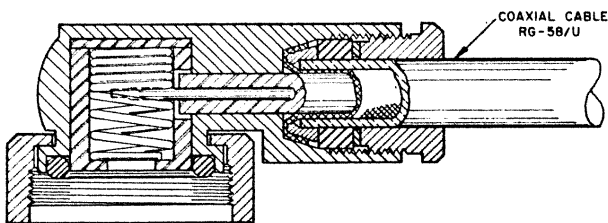
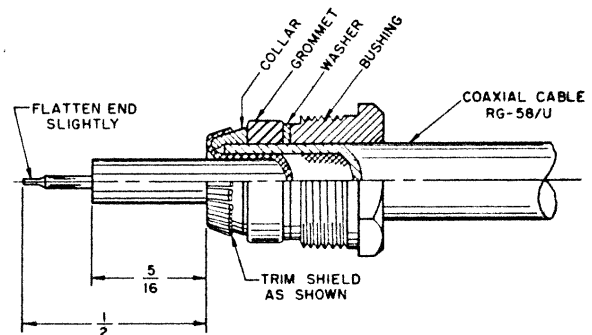

Fig. 5 Connector, Plug
Fig. 6 Cable Service for Connector, Plug
Fig. 5 shows construction of the dc plug in section, and Fig. 6 shows the proper service of the RG-58/U with the fittings on it for use with these plugs. To remove cable from the plug unscrew the hex flanged bushing from the body shank and pull cable out. The chisel point of the center conductor of the cable makes tight contact between the turns of coil spring when assembled.
- (1) Slip the bushing washer, and grommet over end of cable.
- (2) Remove outer insulation $9/16$ inch from end.
- (3) Slip collar over shielding (unbraided).
- (4) Fold back braids and trim as illustrated, Fig. 6.
- (5) Remove inside insulation to dimension shown.
- (6) Flatten end of center conductor to sharp chisel edge, push into Dc Plug, aligning edge with turns of coil spring.
- (7) Push in grommet and washer and screw bushing down slowly.